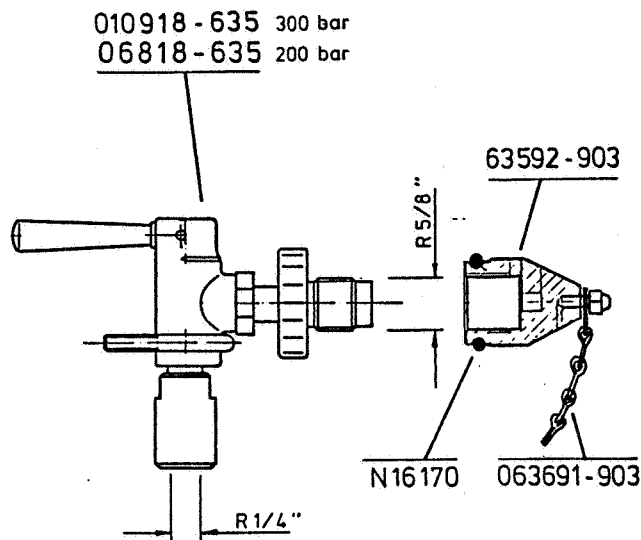

Fig. 17.1 Filling valve with cap plug
- Use plug 63592-903 for filling valves with bottle connector R 5/8", see fig. 17.1.